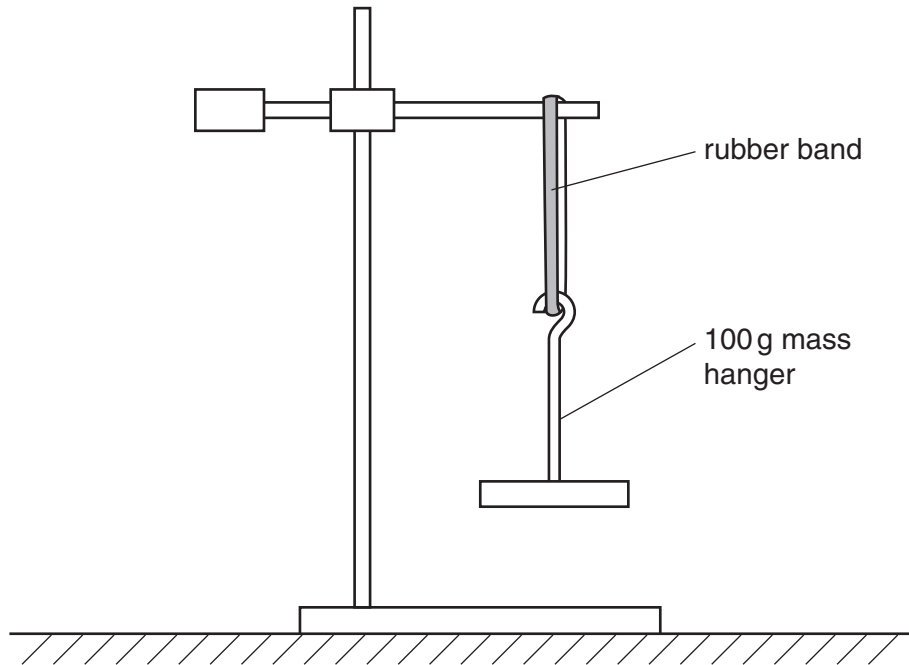

Fig. 2.1
- (a) (i) Suspend the rubber band from the retort stand and hang the 100 g mass hanger from the rubber band, as shown in Fig. 2.1